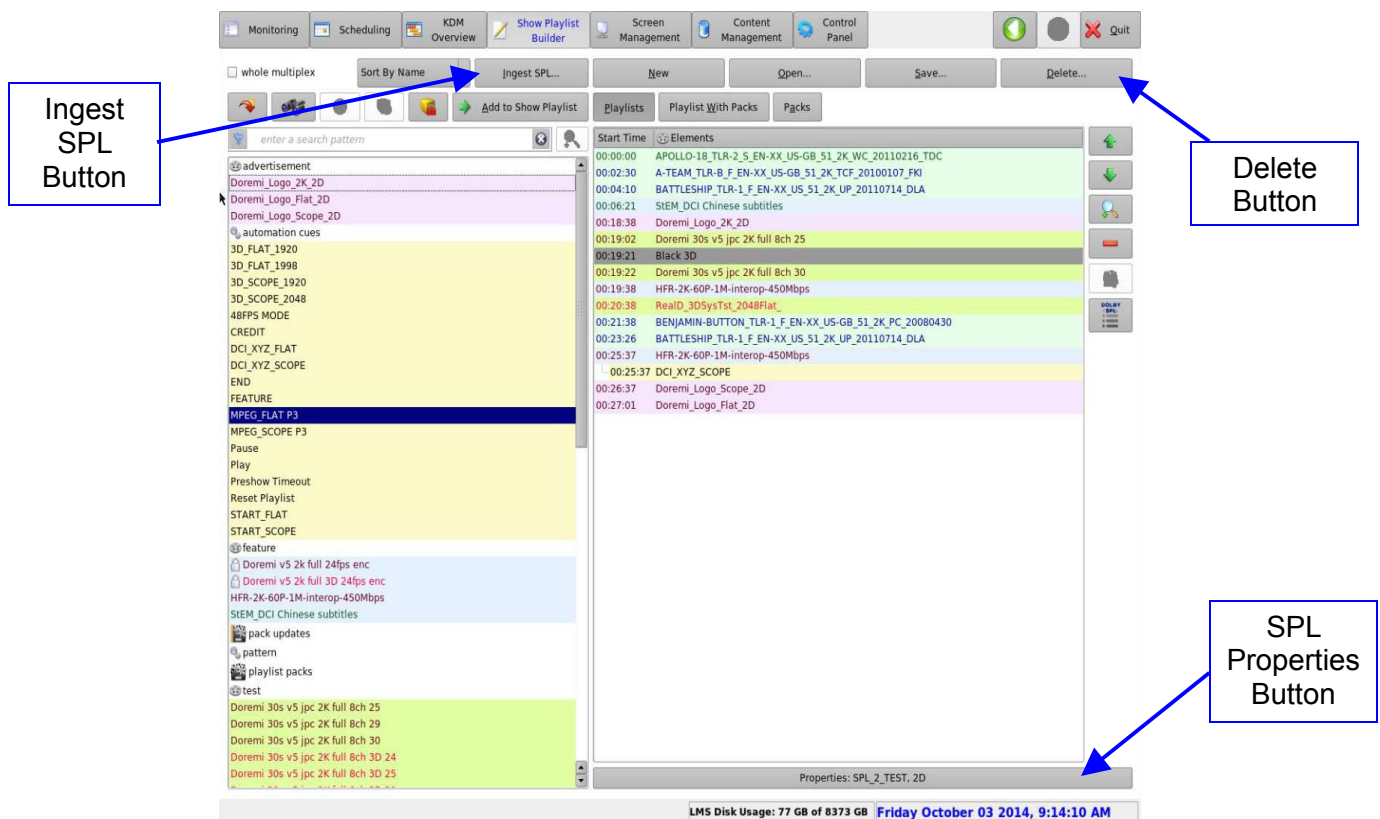
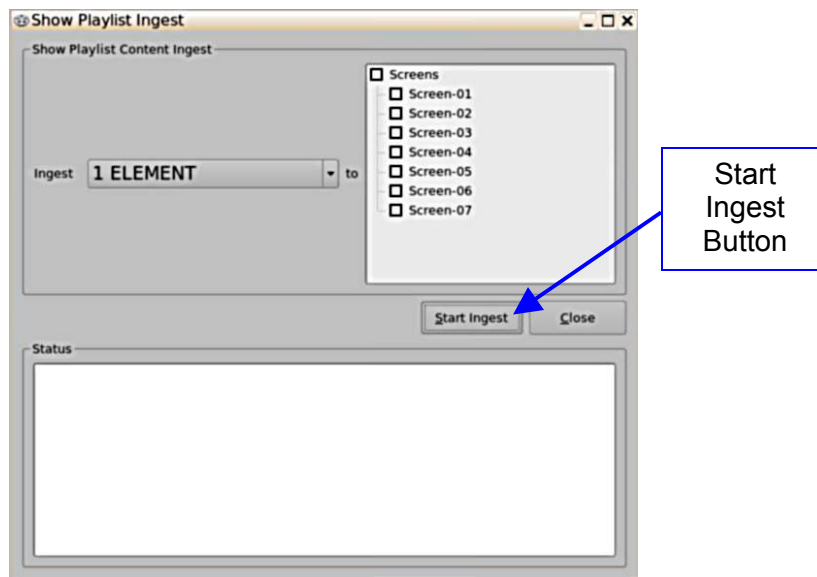
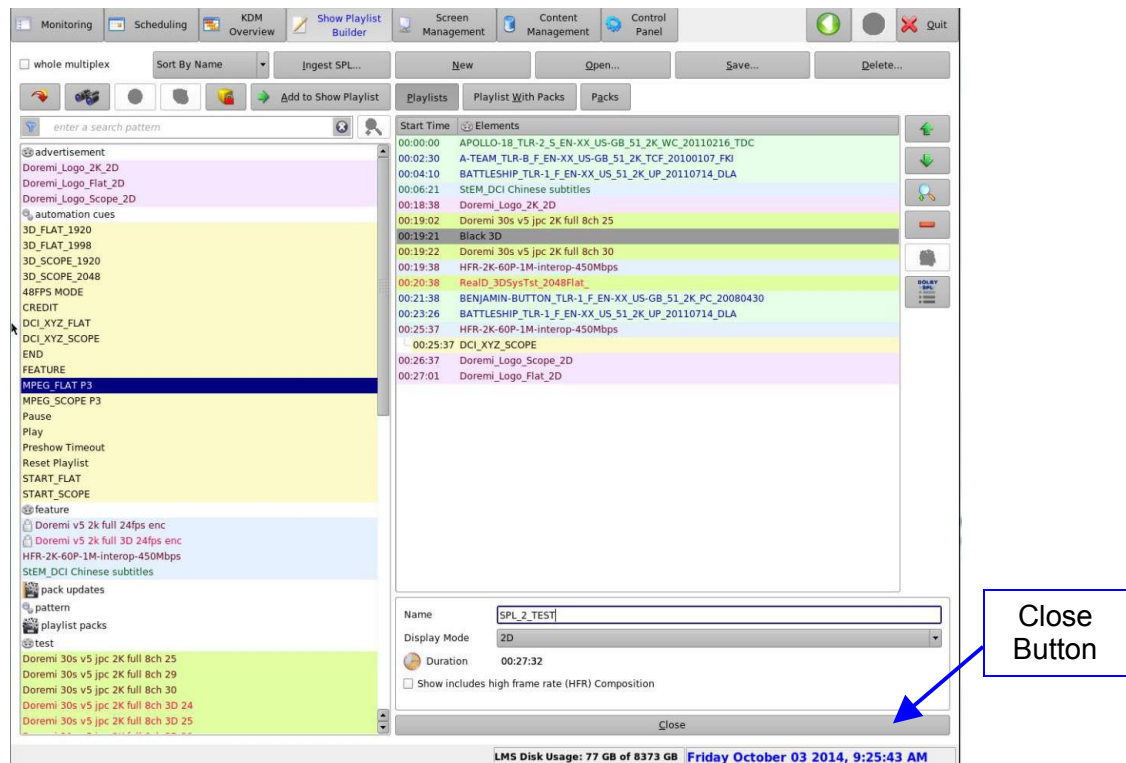

Figure 49: Show Playlist Creation
Figure 51: Show Playlist Ingest Window
Figure 52: SPL Properties Window
- The element will appear on the right part of the window. Repeating this operation with all the required elements will lead to a Show Playlist (Figure 49):
- If an element needs to be deleted from the Show Playlist, select it in the Show Playlist window and click on the Delete button. See Figure 49.
- The Ingest SPL button (Figure 49) forces the SPL ingest on a selected screen right away. The SPL ingest window that will appear is presented below (Figure 51):
- Select the SPL to ingest and the destination screen, then click on the Start Ingest button (Figure 51).
- Clicking on the SPL Properties button (Figure 49) will make the SPL Properties window visible (Figure 52).
- To hide the SPL Properties window, click on the Close button, See Figure 52.